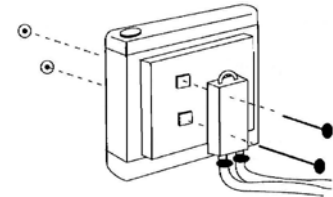

FIGURE 3
2. Mount cooler to radiator and/or air condenser as shown in diagram (fig. 3).